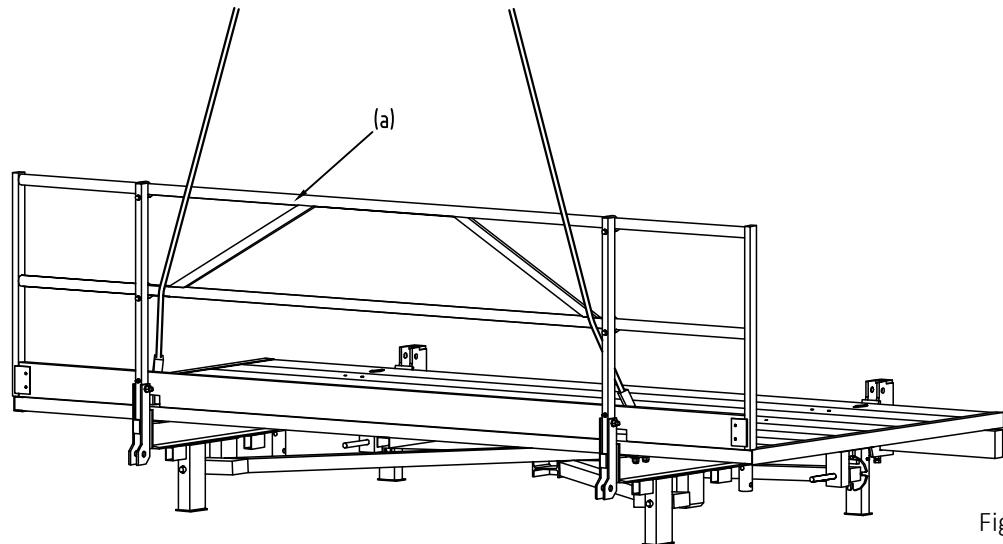

Fig. 1
- 1 Swing out and engage guard rail (a). Attach the crane's lifting tackle to the sunken stirrups nearest the guard rail and take the crane ropes up through the guard rail (see Fig. 1).